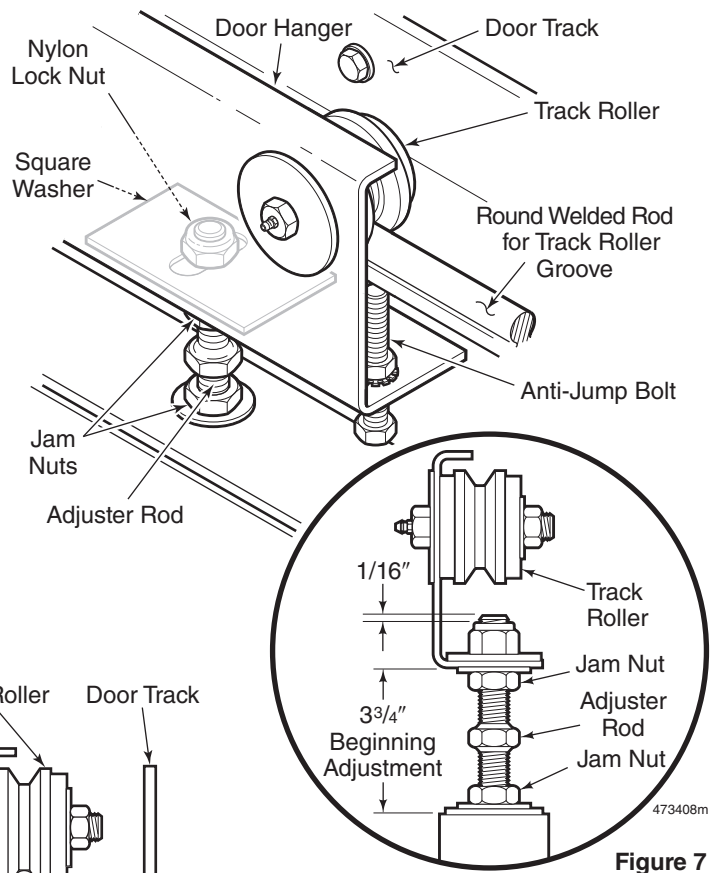
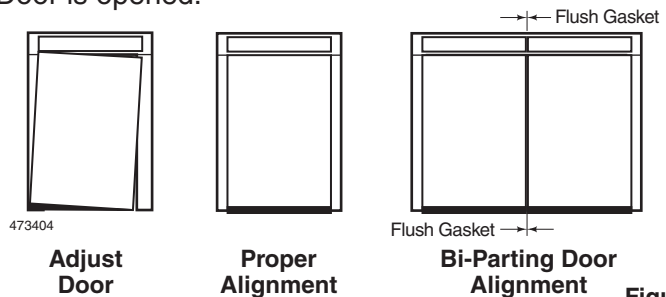

Figure 7
Figure 9
1. Install the Door Hanger on top of the door. Fasten it to the door with the Square Washers, flat washers, Jam Nuts, nylon Lock Nuts, and 3/4" Adjuster Rods. Make sure the Adjuster Rod comes through the nylon Lock Nut on the Square Washer no more than 1/16". Adjust the Door Hanger temporarily to 3-3/4" from the top of the door to the bottom of the Channel. Final adjustment is made after the Door is hanging on the Door Track. See Figure 7.
1. For a single slide door, set the door in the closed position and adjust the door height so the Sweep Gasket lightly touches the floor and the door lines up with the side frames. See Figure 9. To adjust the height, loosen the top and bottom Jam Nuts on both Adjuster Rods and raise or lower the door with the welded nut on the Adjuster Rod. Tighten the Jam Nuts to lock the door in position. See Figure 7.
2. For a bi-parting door, set the doors in the closed position and adjust the door height so the Sweep Gasket lightly touches the floor. Use the Adjuster Rod to align the two door leaf sections for a proper seal where the doors come together. The door leaves should be parallel and have a uniform seal from top to bottom. See Figure 9. To adjust the height, loosen the top and bottom Jam Nuts on both Adjuster Rods and raise or lower the door leaf with the Adjuster Rod. Tighten the Jam Nuts to lock the door in position. See Figure 7.